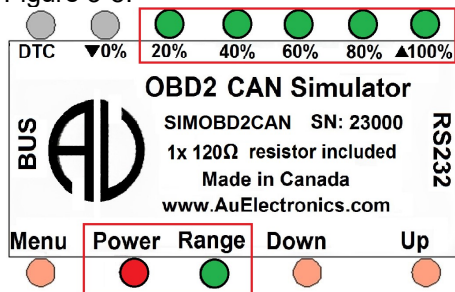

Figure 3-8
- When control step value equals 100%; 20%, 40%, 60%, and 80% LED will be constant on. ▲ 100% LED blinks, as shown in Figure 3-8.